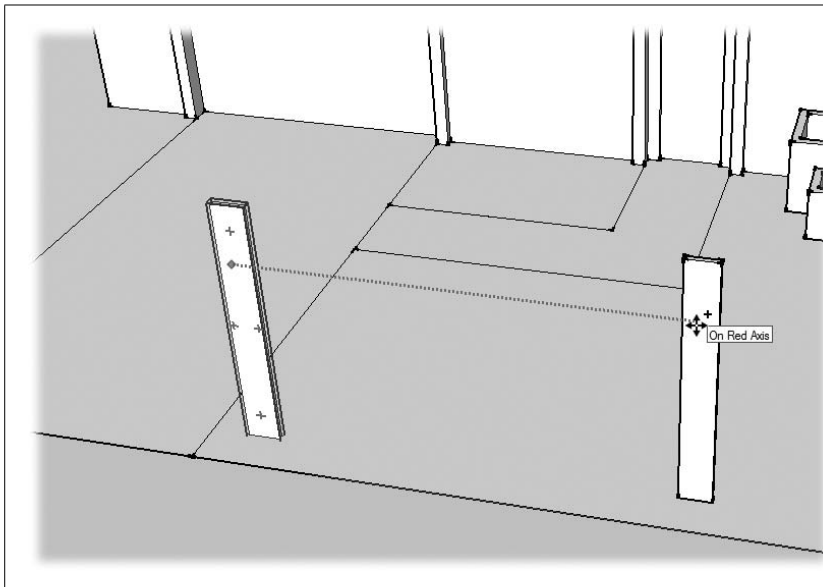

Figure 5-13:
4. While the + sign is showing, click the fence board component, and move the copy along the red axis as shown in Figure 5-13.